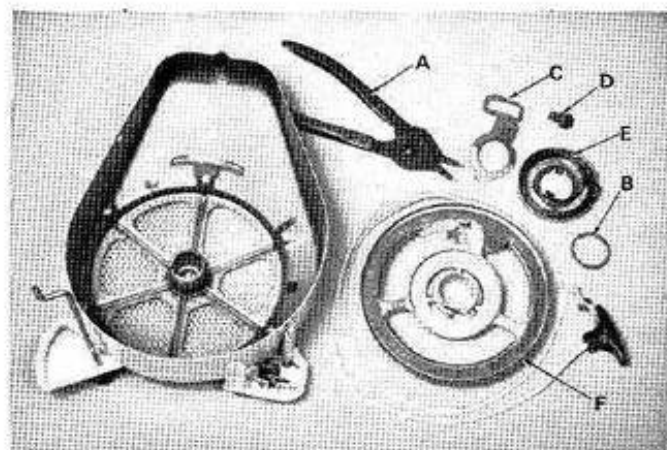

Figure 110. Up and Away Starter Disassembly.
- d. Using a tru-arc pliers (A) or a fine tipped screwdriver, remove the snap ring (B). Then remove the pawl lever (C) and the pawl (D). (See Figure 110.)
- e. Next, lift the cup and the recoil spring (E) from the hub of the pulley (F).